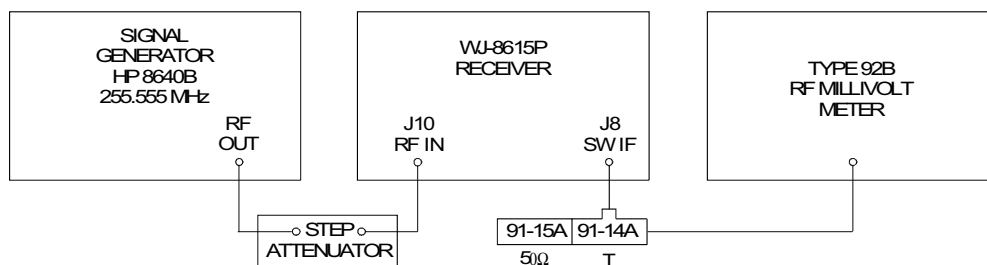

Figure 4-2. IF Bandwidth Filter Performance Test, Equipment Connections
1. Connect the test equipment as illustrated in **Figure 4-2**.